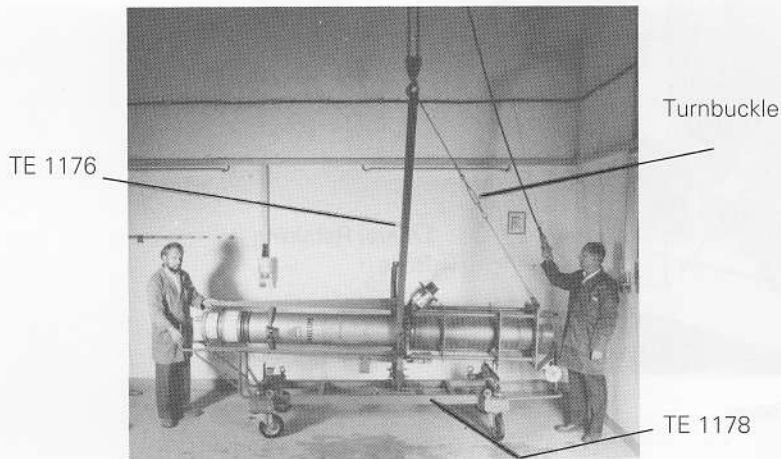

Fig. 9. Preparing to Hoist the Klystron
- (g) Attach the wire hawser (part of lifting yoke TE 1176) between the hoist and the collector supporting frame (Fig. 9).
- (a) Very carefully hoist the klystron a few millimetres and observe that it lifts simultaneously from both support points of the transport trolley (TE 1178). If necessary, adjust the turnbuckle (Fig. 9) on the wire hawser to ensure that the klystron hoists exactly parallel with the ground.